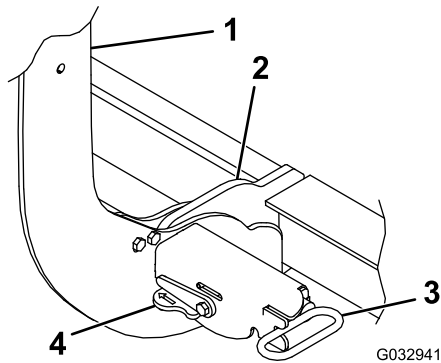

Figure 37
4. Turn the levers on the spring pins to the UNLOCK position (Figure 37).